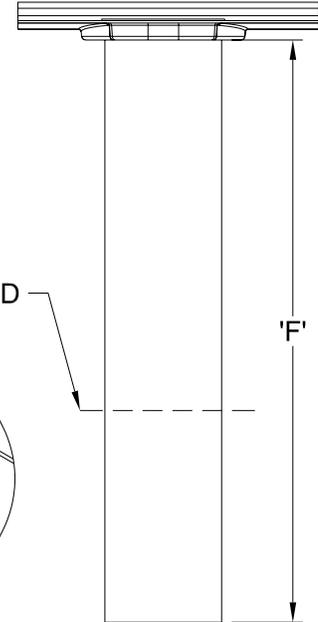

Figure 6
- 8. Cut outlet pipe to required length prior to installing into drain. Ensure all sharp edges are deburred.(Figure 6)